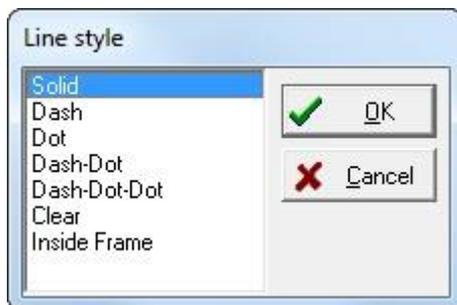

Fig. 46 Line style.
- **Line Style** is used to change the line style of the DataSet in the graph (Fig. 46).